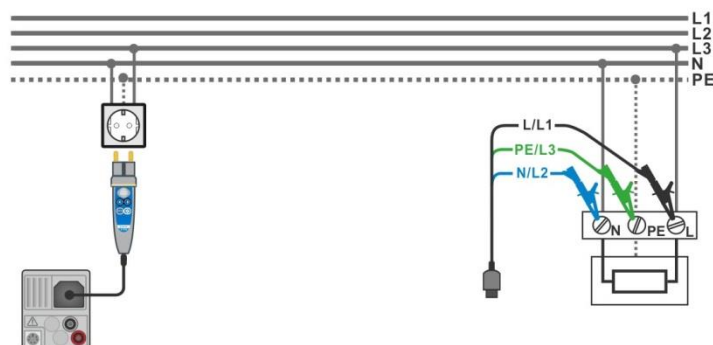

Figure 7.79: Connection of Plug commander and 3-wire test lead
- › Connect test leads or Plug commander to the object under test, see **Figure 7.79**.